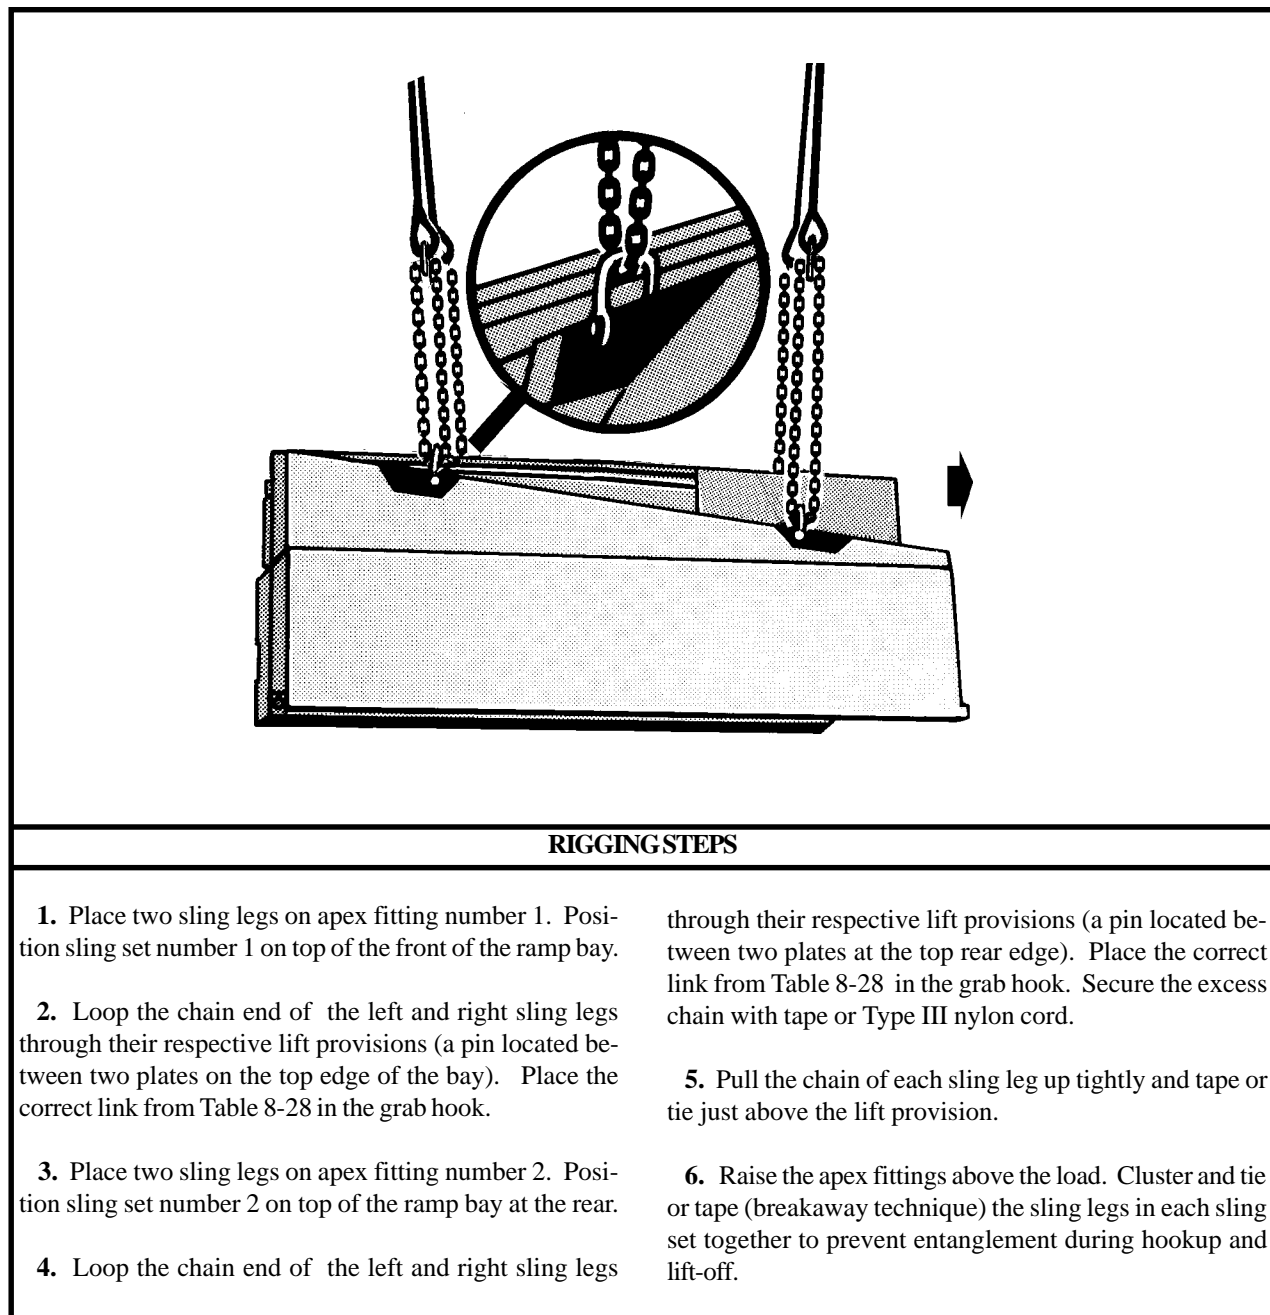

Figure 8-28. Ribbon Bridge, Ramp Bay
(2) **Rigging.** Rig the load according to the steps in Figure 8-28.